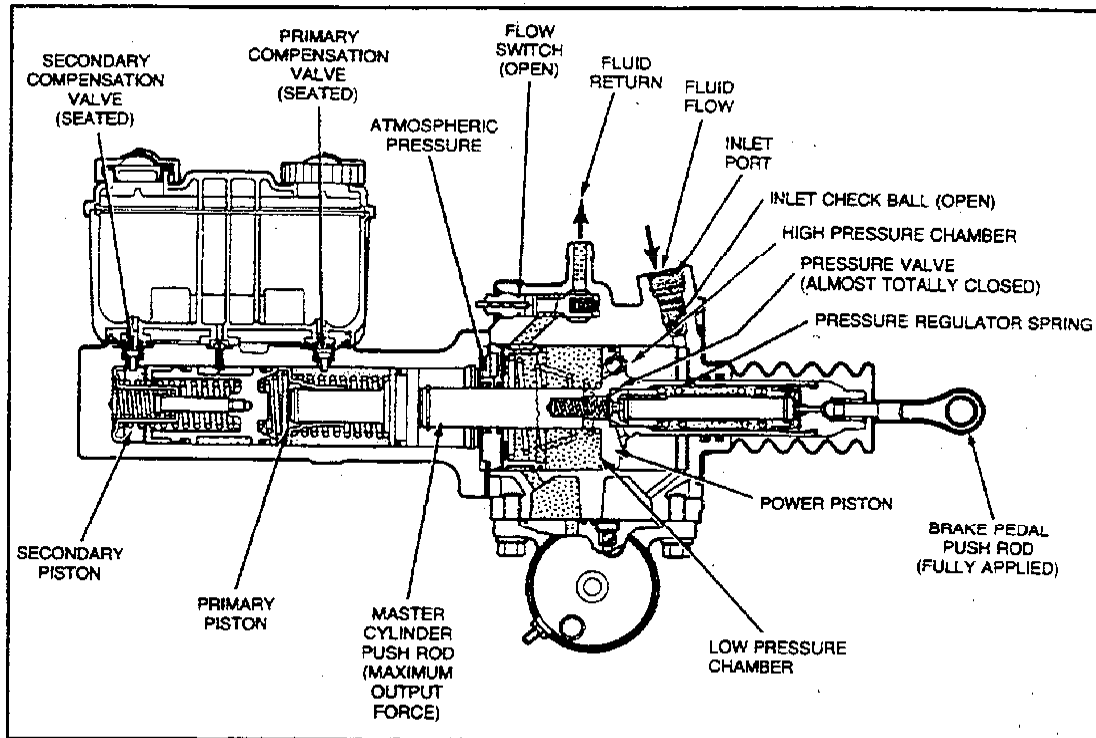

Fig. 7-7. Hydro-Max - Brakes Applied
(2) Fluid passing out of the booster unit holds the flow switch open. The purpose of the flow switch is to activate the electric pump when the flow of hydraulic fluid stops, thereby providing the emergency power-assist function.
(3) No pressure is applied to the power piston and the master cylinder rod is at rest.
(4) No action takes place in the master cylinder and no brake application occurs.
c. Operation - Brakes Applied. Figure 7-7 shown illustrates the Hydro-Max brake booster with the brakes applied. It operates as follows:
(1) Flow pressure from the power steering or brake pump (located elsewhere in the engine compartment) holds the Hydro-Max booster inlet check valve open.
(2) As the brake pedal is applied, the input rod (brake pedal push rod) travels forward, which causes the pressure valve to partially close. When open, the pressure valve allows fluid to flow through the power piston. As it closes, pressure on the piston rises, creating the modulated power-assist effect.